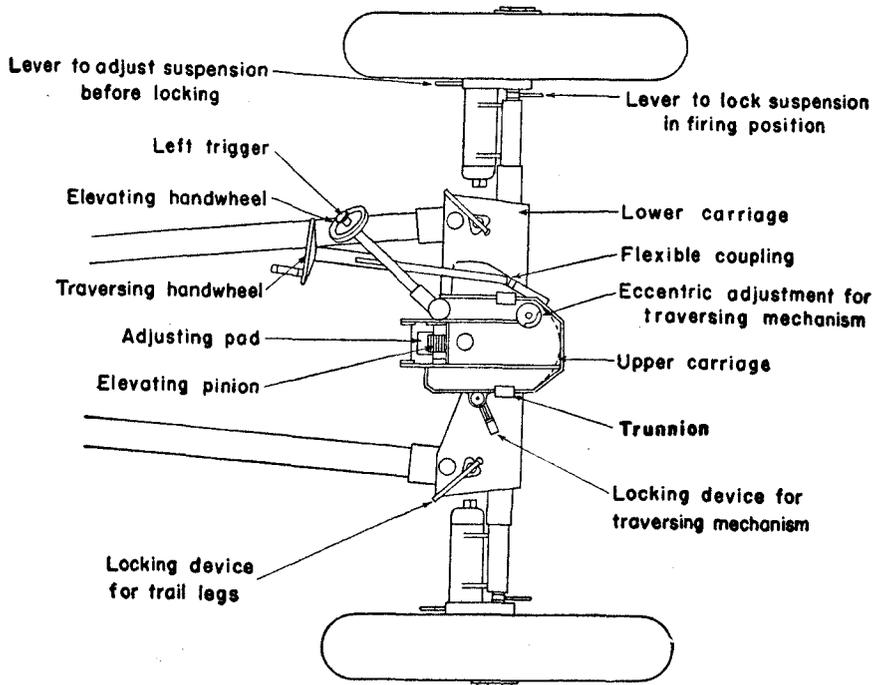

Figure 63.—Carriage of 3.7-cm Pak, showing traversing and elevating mechanisms.
(3) *Traversing mechanism*.—The gunner is on the left side of the weapon and operates the traverse with his right hand by a small handwheel (clockwise to the right, counterclockwise to the left). (See fig. 63.) The traverse is 60 degrees (1,062 mils), and is completed by  $30\frac{1}{2}$  turns of the handwheel.
(4) *Elevating mechanism.*—The arc of 21 degrees (372 mils) elevation and 13 degrees (229 mils) depression is completed by  $33\frac{1}{2}$  turns of the handwheel, which the gunner operates with his left hand. (See fig. 63.)